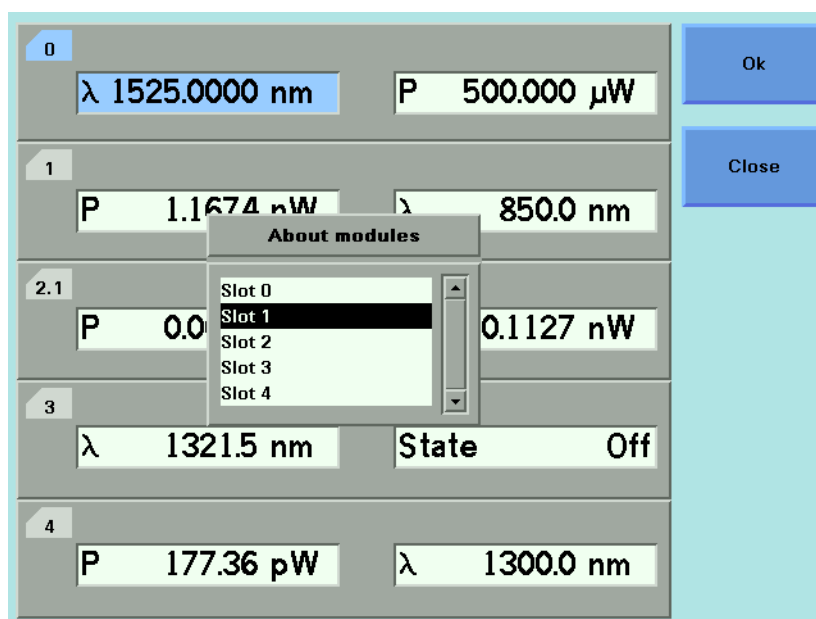

Figure 37 Slots with Installed Modules
- 2 Move to the *<About Modules>* menu option and press *Enter*. You see a box displaying the slots which have installed modules, see Figure 37 .
- 5 Press [Close] to return to the menu in Figure 37 .